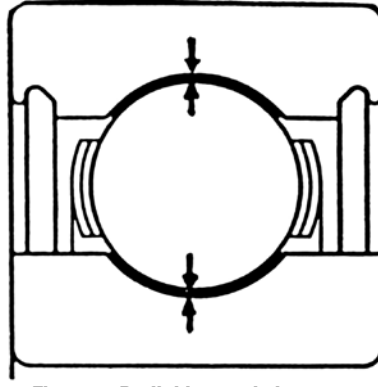

Figure 2. Radial internal clearance.
4. Be aware of radial internal clearance (see Figure 2). It is critical to maintain the proper RIC established in the original design. The standard scale in order of ascending clearance is C2, C0, C3, C4, C5. The proper clearance for the application is critical in that it allows for the challenges of: